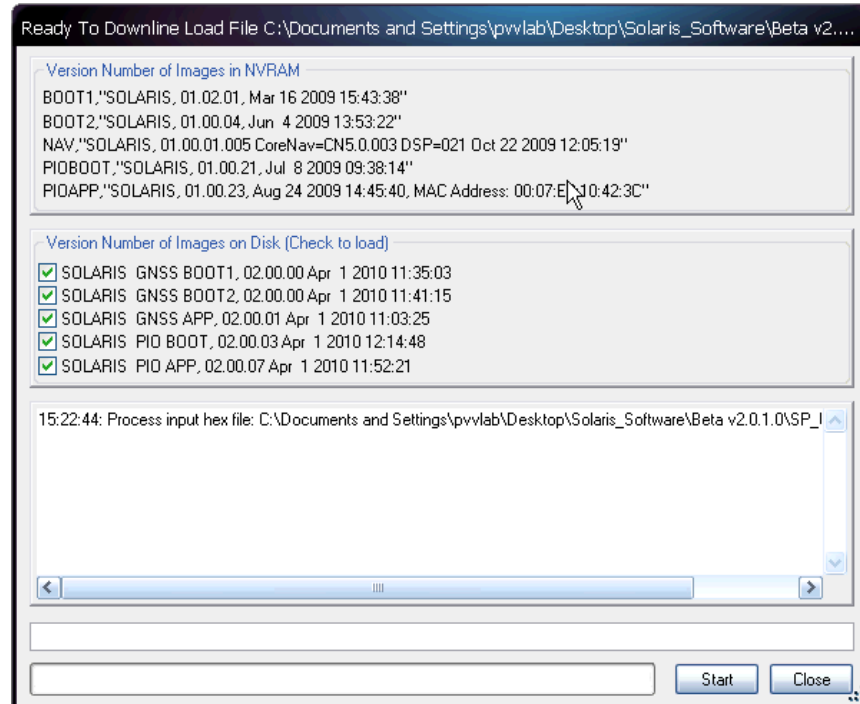

Figure 67: Ready to Downline Load File
6. The files to be uploaded are displayed on the *Ready to Downline Load File* dialog box with the corresponding check boxes selected (see Figure 67). Select and deselect files to upload as appropriate.